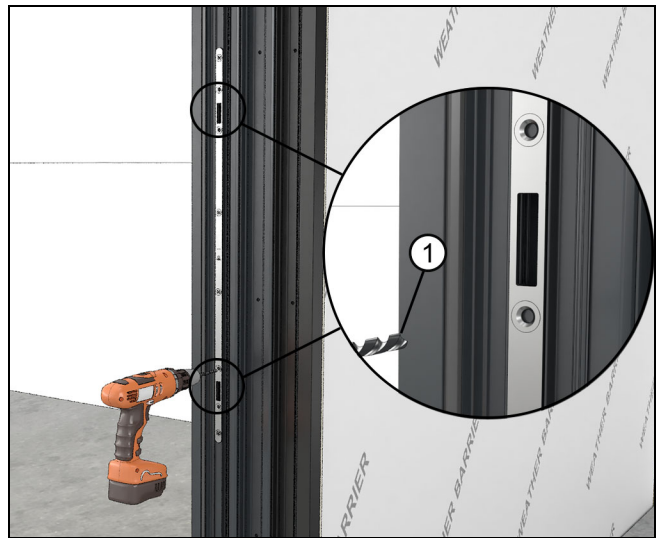

Figure 70
9. On uni-directional units, pre-drill through the open holes in the strike plate (above and below each strike) with a 3/16"(5) drill bit. See Figure 70.